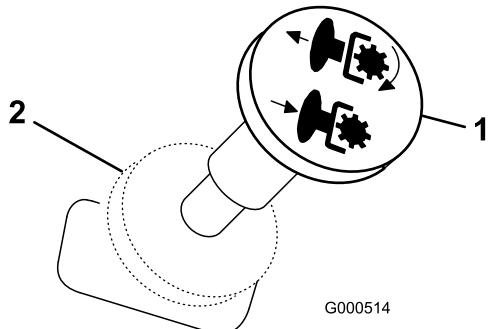

Figure 13
- Pull out on the power take off (PTO) switch to engage it (Figure 13).
To disengage, push the PTO switch to the off position (Figure 13).